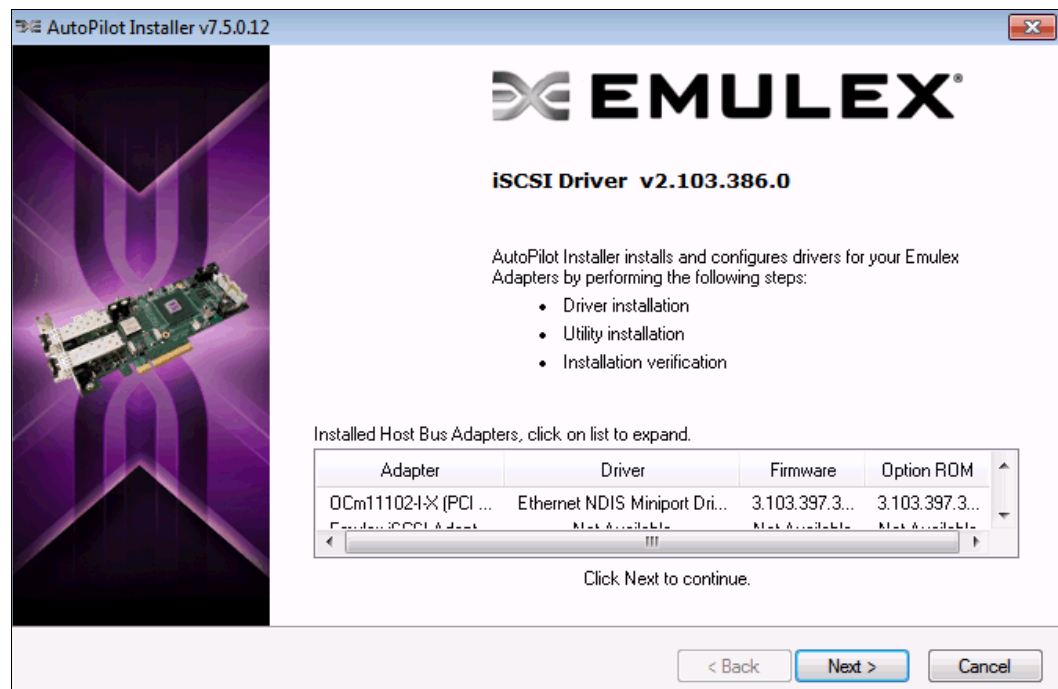

Figure 7-21 Detected Emulex Virtual Fabric Adapters
5. In the panel that shows the installed HBAs and detected Emulex Virtual Fabric Adapters (Figure 7-21), click **Next**.